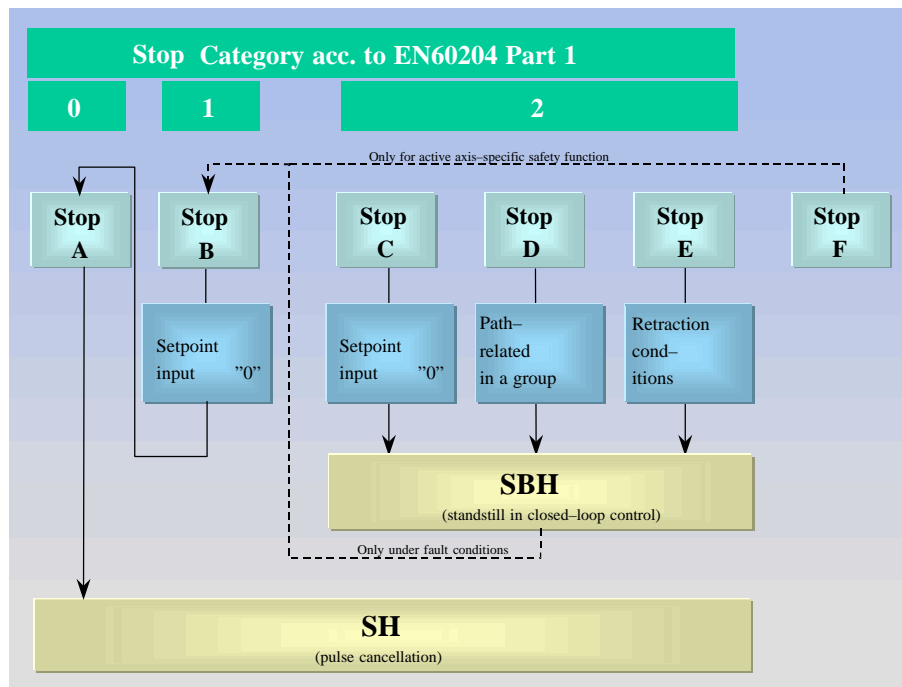

Fig. 5-7 Stop responses, safe operating stop (SBH), safe standstill (SH)
Fig. 5-7 shows the relationship between the stop responses and the safe operating stop (SBH) or the safe standstill (SH).